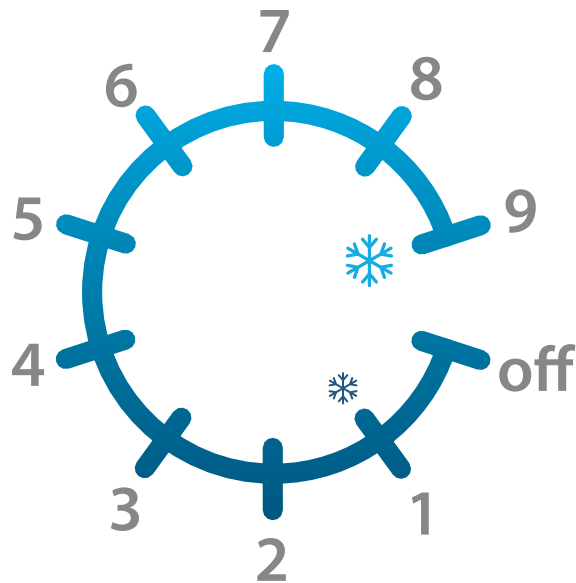

Fig. 2. Temperature control knob settings. 1 is the warmest setting; 9 is the coldest.
Turn the temperature control knob clockwise to lower the temperature setting and counterclockwise to raise the temperature setting. One (1) is the warmest setting; Nine (9) is the coldest. See fig. 2.